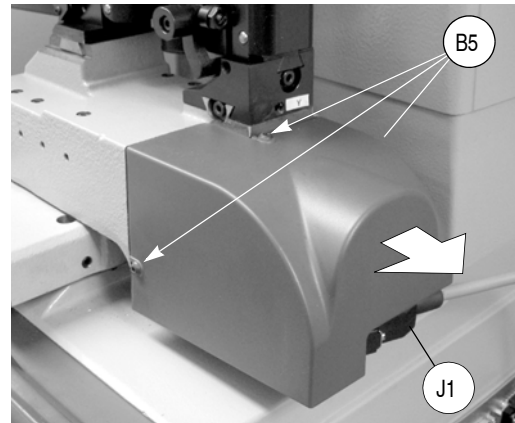

Fig. 59
- 3) disconnect the (J1) Y axis cable from the carriage (fig. 59).
- 4) remove the Y axis carriage cover by unscrewing the 3 (B5) locking screws and pull the cover in the direction shown in fig. 59.